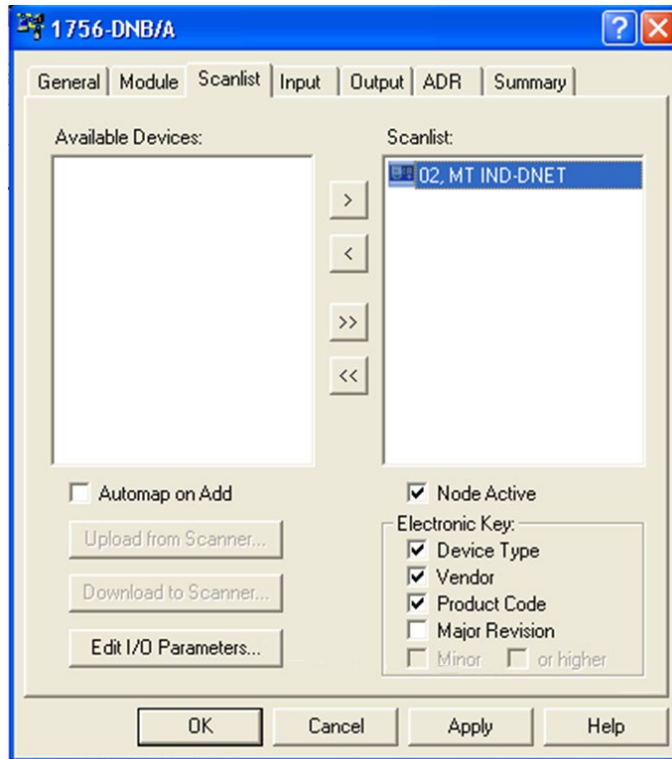

Figure 3-18: IND Terminal Added to Scanlist
8. Highlight the IND Terminal (MT IND-DNET) and left-click to add it to the Scanlist. Once the IND Terminal is added, it will appear in the right pane (Figure 3-18). Click **OK**.
9. The next step is to edit the I/O parameters of the IND terminal, by clicking on the **Edit I/O Parameters** button visible in Figure 3-18. The I/O size depends on the data type and the number of slots selected in the terminal. Note that slots is a terminal phrase that isn't used in typical DeviceNet terms; it was derived from previous PLC memory mapping. It is used in the terminal setup to remain consistent across the METTLER TOLEDO terminal line. Integer or Divisions with one slot will be 4 bytes/in 4 bytes out. Integer or Division with 2 slots is 8 bytes in/8 bytes out. Float is always 8 bytes in and out.